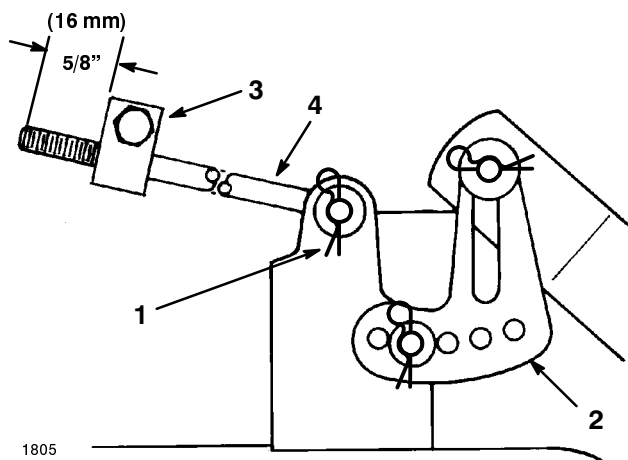

Figure 49
3. Measure the length of the rod extending out the front of the adjusting block on the sides of the chassis (Fig. 49). If the rod length is not 5/8" (16 mm), remove the hair pin cotter and washer from the end of the rod (Fig. 49), and turn the rod until the 5/8" (16 mm) dimension is obtained. Then install the end of the rod into the hole in the mower mount and secure it in place with the washer and hair pin cotter. Repeat this procedure on the opposite side.